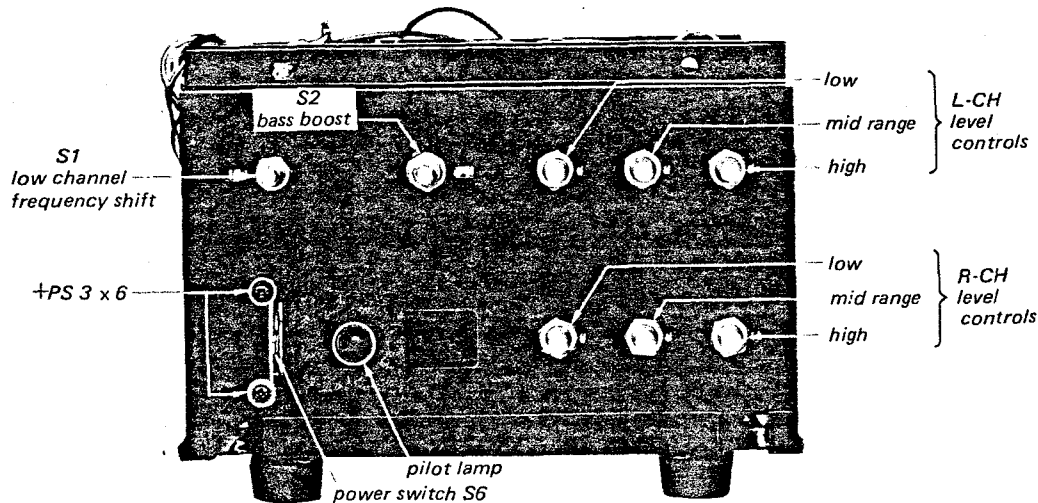

Fig. 2-4 Switch and control replacement
1. Remove the two screws (+PS 3 X 6) securing the switch to the front subchassis as shown in Fig. 2-4.
1. Remove the hex nut securing the LOW CHANNEL FREQUENCY SHIFT switch to the front subchassis as shown in Fig. 2-4.
1. Remove the hex nut securing the defective switch to the front subchassis. See Fig. 2-4.
1. Remove the hex nut securing each control to the front subchassis. See Fig. 2-4.